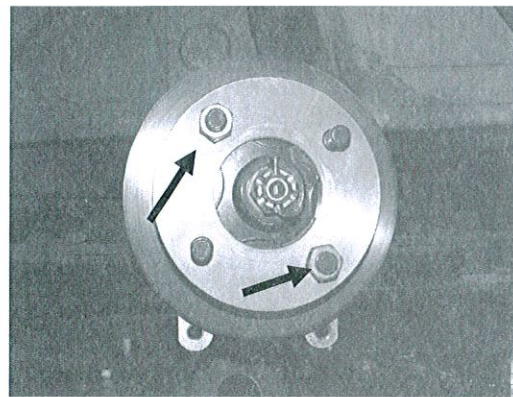

Fig. 7 - (2) lug nuts to temporarily hold rotor in place.
7. Mount rotor over hub. For temporary holding while brake is being installed, finger tighten (2) wheel nuts over hub. (See Fig.7)